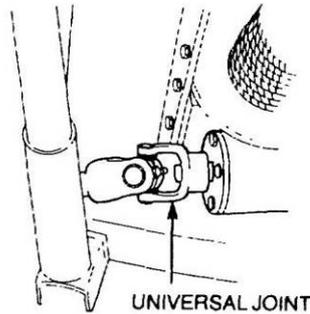

Figure 166 Disconnection of the Winch Input Shaft Universal Joint
- a. Remove the 3/8 in UNC Allen screw securing the winch driveline universal joint to the winch input shaft (Figure 166).